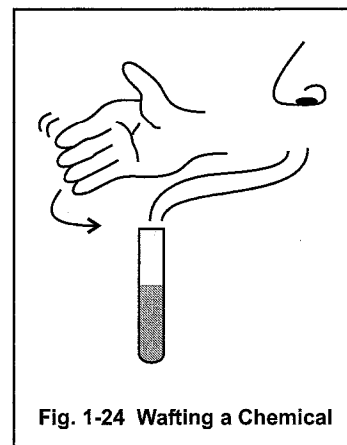

Fig. 1-24 Wafting a Chemical
- Never inhale fumes from chemicals unless directed to do so. If an experiment calls for a chemical to be smelled, it should be wafted to the nose by holding the chemical away from the nose and gently moving the fumes towards the nose with the hand. See figure 1-24.